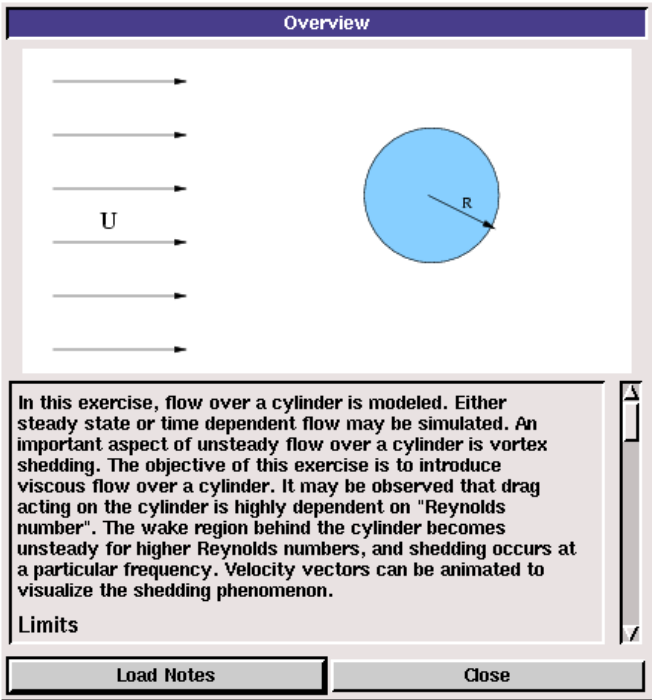

Figure 5.4.1: Overview Panel
4. View the problem overview (Figure 5.4.1).